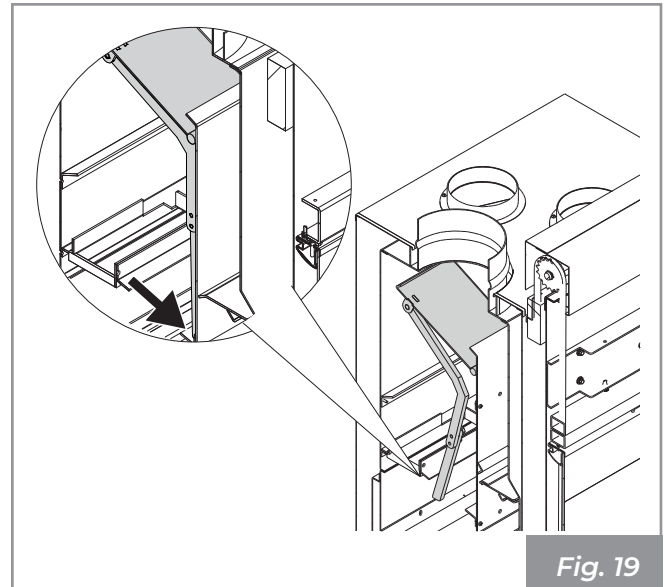

Fig. 19
- 2) Make sure that the flue inspection valve is in the closed position with the rod positioned in the appropriate bracket (Fig. 19).